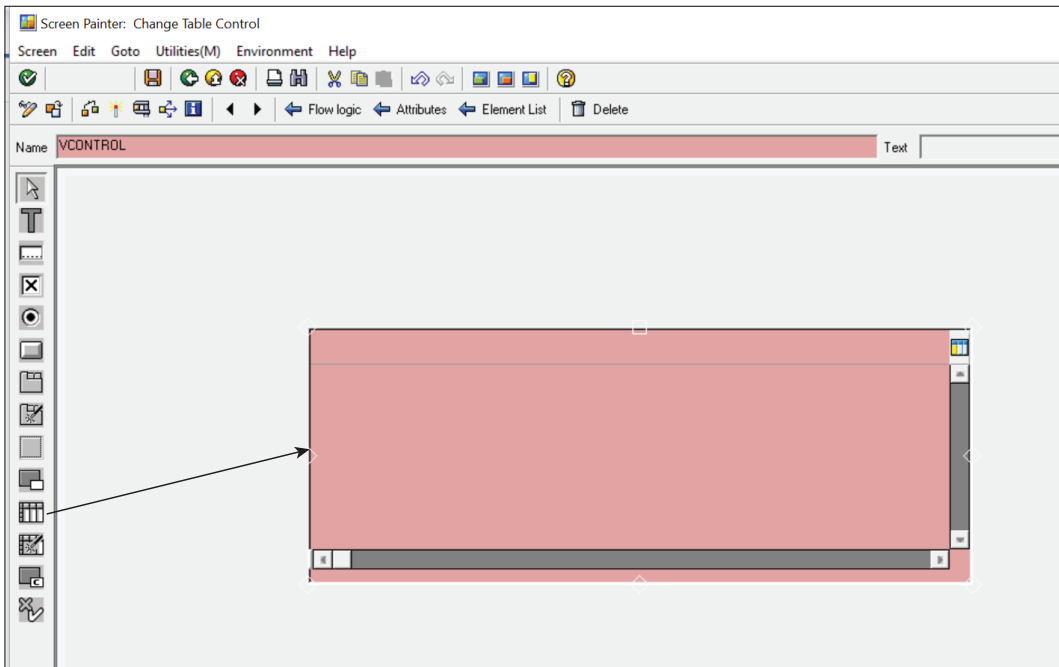

Figure 12.29 Creating Table Control
1. Select the table control element from the element palette and drag it to the work area, as shown in Figure 12.29. Provide a name for the table control.